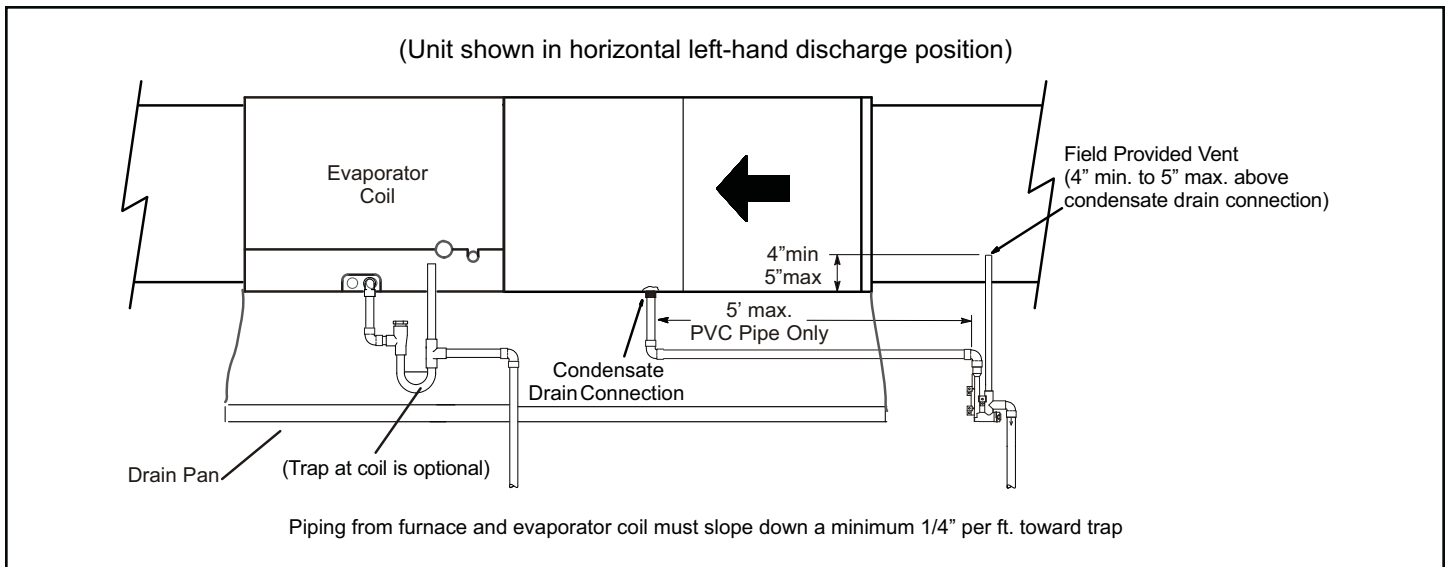
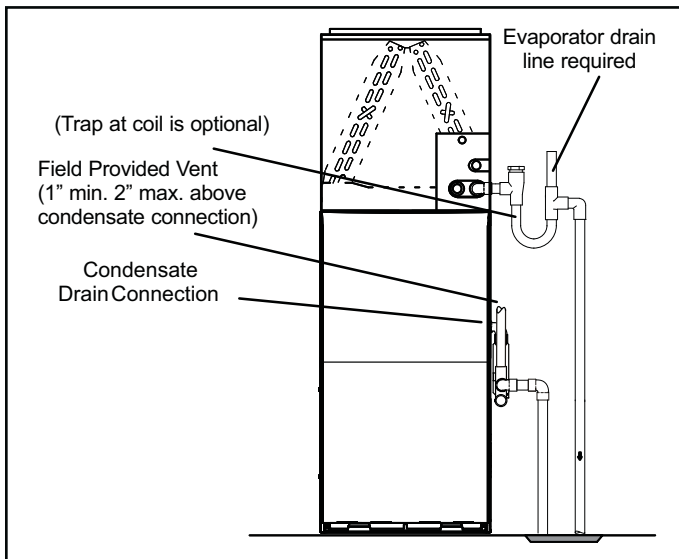
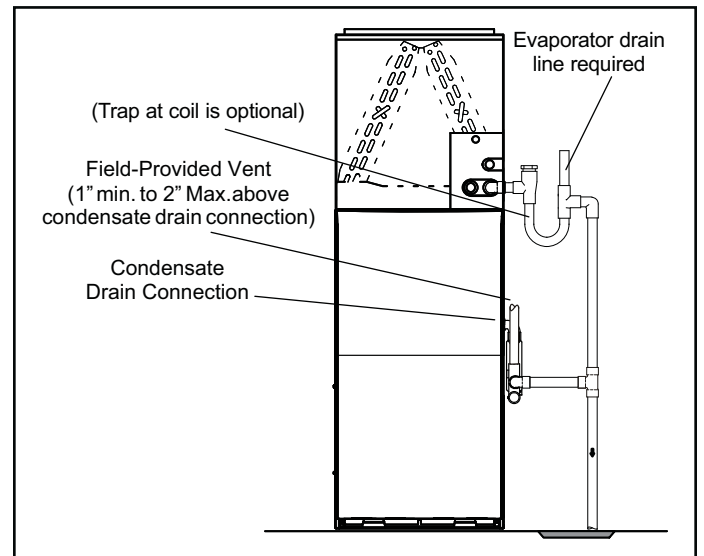
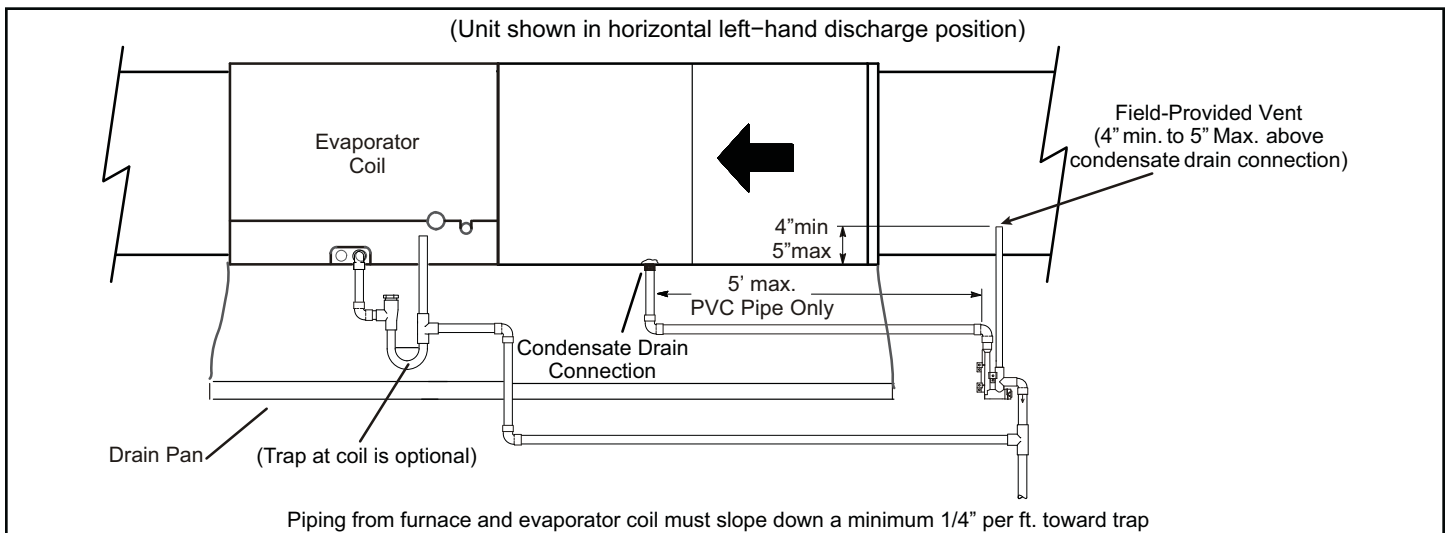

Figure 54. Furnace with Evaporator Coil Using a Separate Drain
Figure 55. Furnace with Evaporator Coil Using a Separate Drain
Figure 56. Furnace with Evaporator Coil Using a Common Drain
Figure 57. Furnace with Evaporator Coil Using a Common Drain
5. Figure 54 and Figure 55 show the furnace and evaporator coil using a separate drain. If necessary the condensate line from the furnace and evaporator coil can drain together. See Figure 56 and Figure 57. Upflow furnace (Figure 53) - In upflow furnace applications the field provided vent must be a minimum 1" to a maximum 2" length above the condensate drain outlet connection. Any length above 2" may result in a flooded heat exchanger if the combined primary drain line were to become restricted.
Horizontal furnace (Figure 54) - In horizontal furnace applications the field provided vent must be minimum 4" to a maximum 5" length above the condensate drain outlet connection. Any length above 5" may result in a flooded heat exchanger if the combined primary drain line were to become restricted.